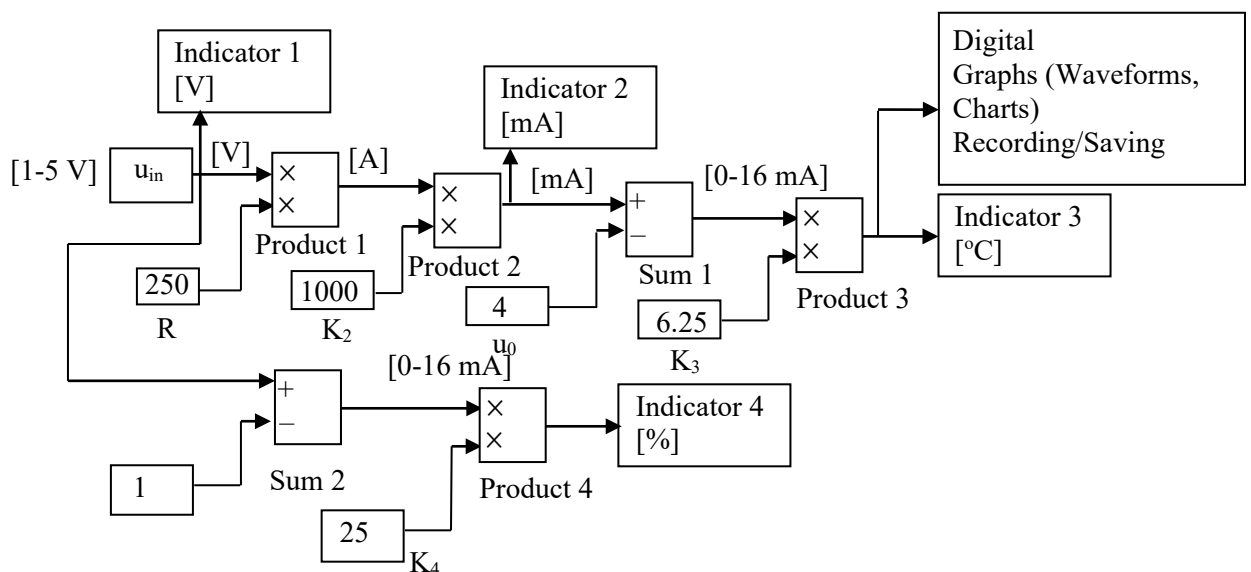

Figure 32 Block diagram for temperature measurement
Block diagram algorithm is shown in **Fig. 32**.
- Refer to the block diagram algorithm in **Fig. 32** select all necessary blocks from the Simulink Library Browser as in **Fig. 33**.